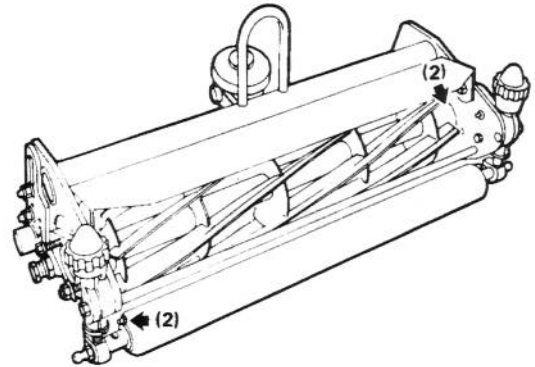

Figure 10
There are seven (7) grease fittings on each cutting (Fig. 10 & 11), which should be greased at least once every two weeks. Lubricate using a No. 2 multipurpose lithium base grease. A hand operated grease gun is recommended for best results.